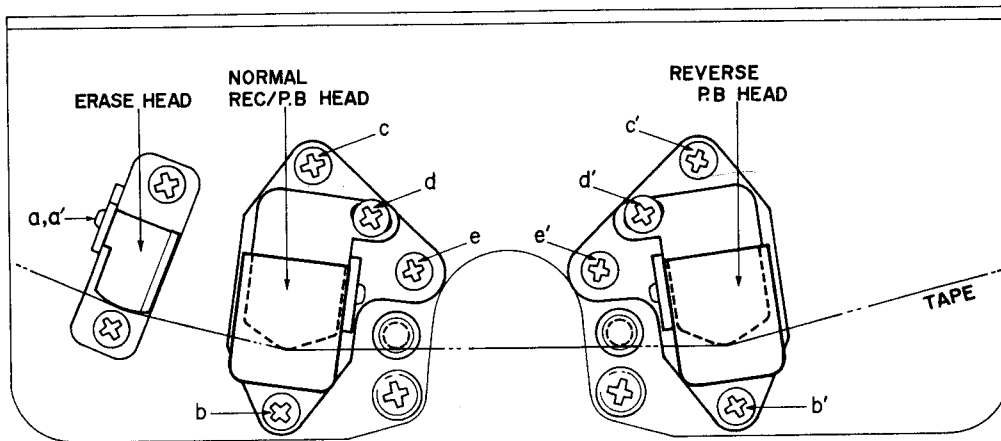

Fig. 10
(See Figs. 10, 11)
ADJUSTMENTS (See Fig. 10)
3. TAPE TOUCH ADJUSTMENTS (See Fig. 10)